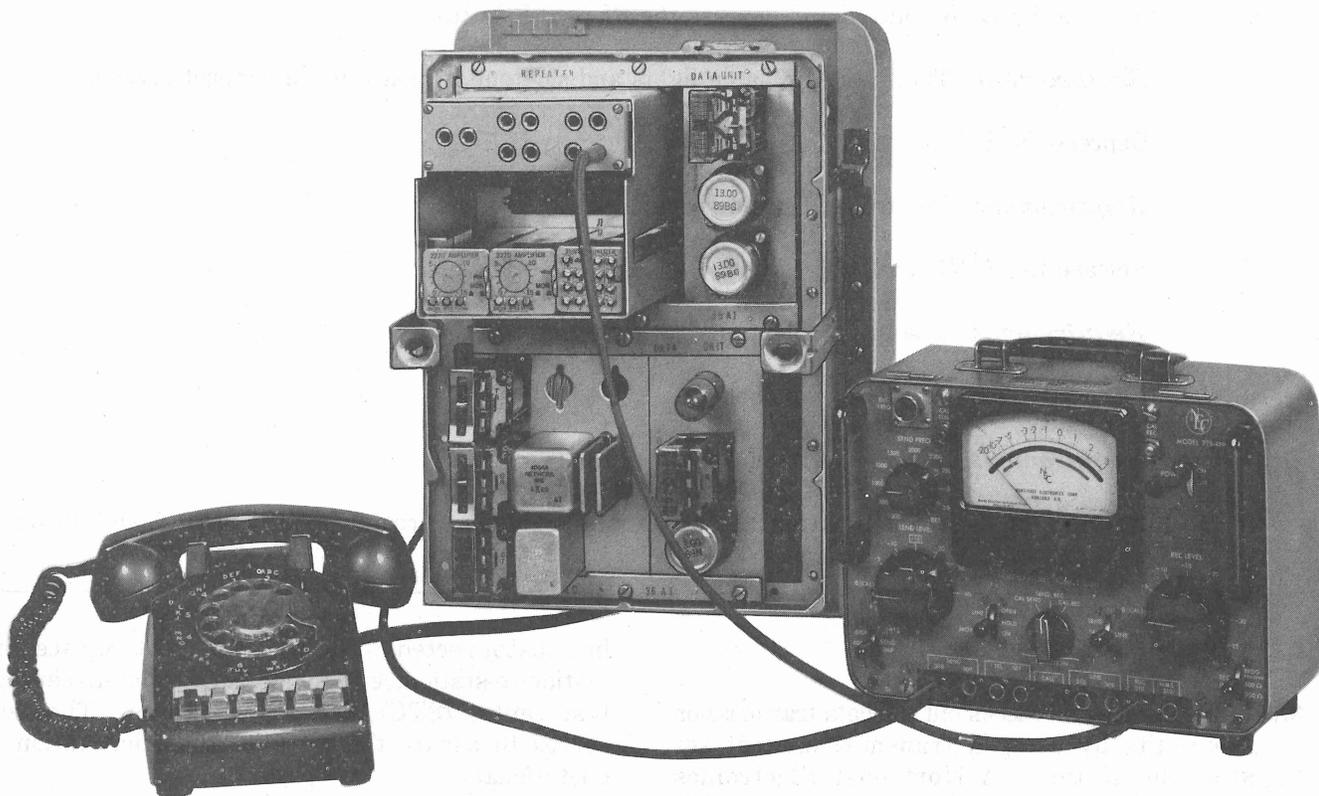

Fig. 1—Typical Test Connection—Transmission Level Tests
3.15 This procedure checks out the data transmission circuits by using a transmission test set (TTS) at the station. A Northeast Electronics TTS-4B is used for this test; however, an equivalent type capable of bridging measurements could be used. A typical connection arrangement is shown in Fig. 1.